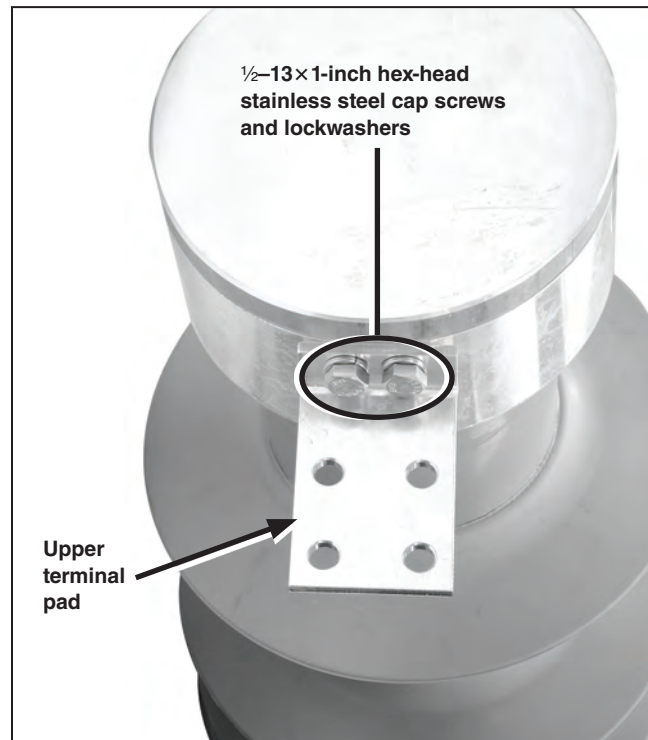

Figure 77. Bolt the upper terminal pad to the interrupter.
- Attach the terminal pad to the appropriate set of tapped holes on the interrupter. Tighten the screws to a torque of 40 to 50 ft.-lbs. See Figure 77.